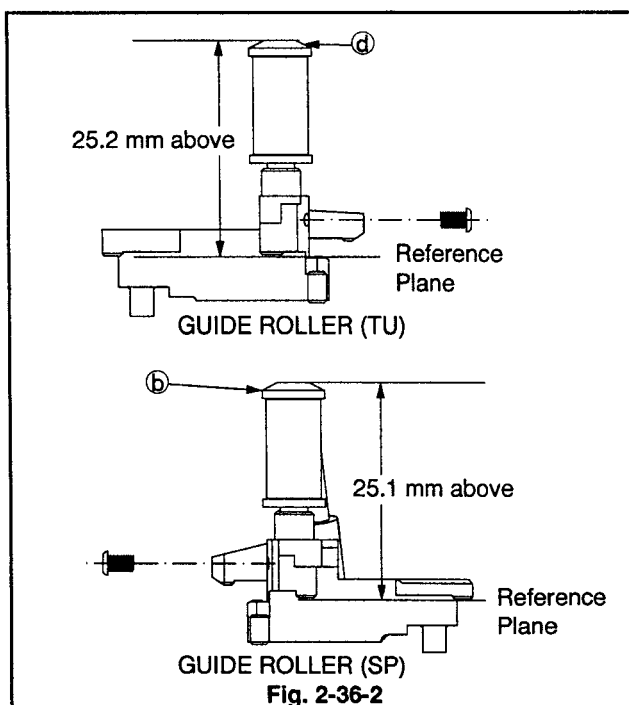

Fig. 2-36-2
2. Turn the height adjustment screw (d) clockwise shown in Fig. 2-36-2, so that the GUIDE ROLLER (TU) is at a height of 25.2 mm above the Reference Plane.
5. Turn the height adjustment screw (b) at the top of the GUIDE ROLLER (SP), clockwise shown in Fig. 2-36-2, so that the GUIDE ROLLER (SP) is at a height of 25.1 mm above the Reference Plane.